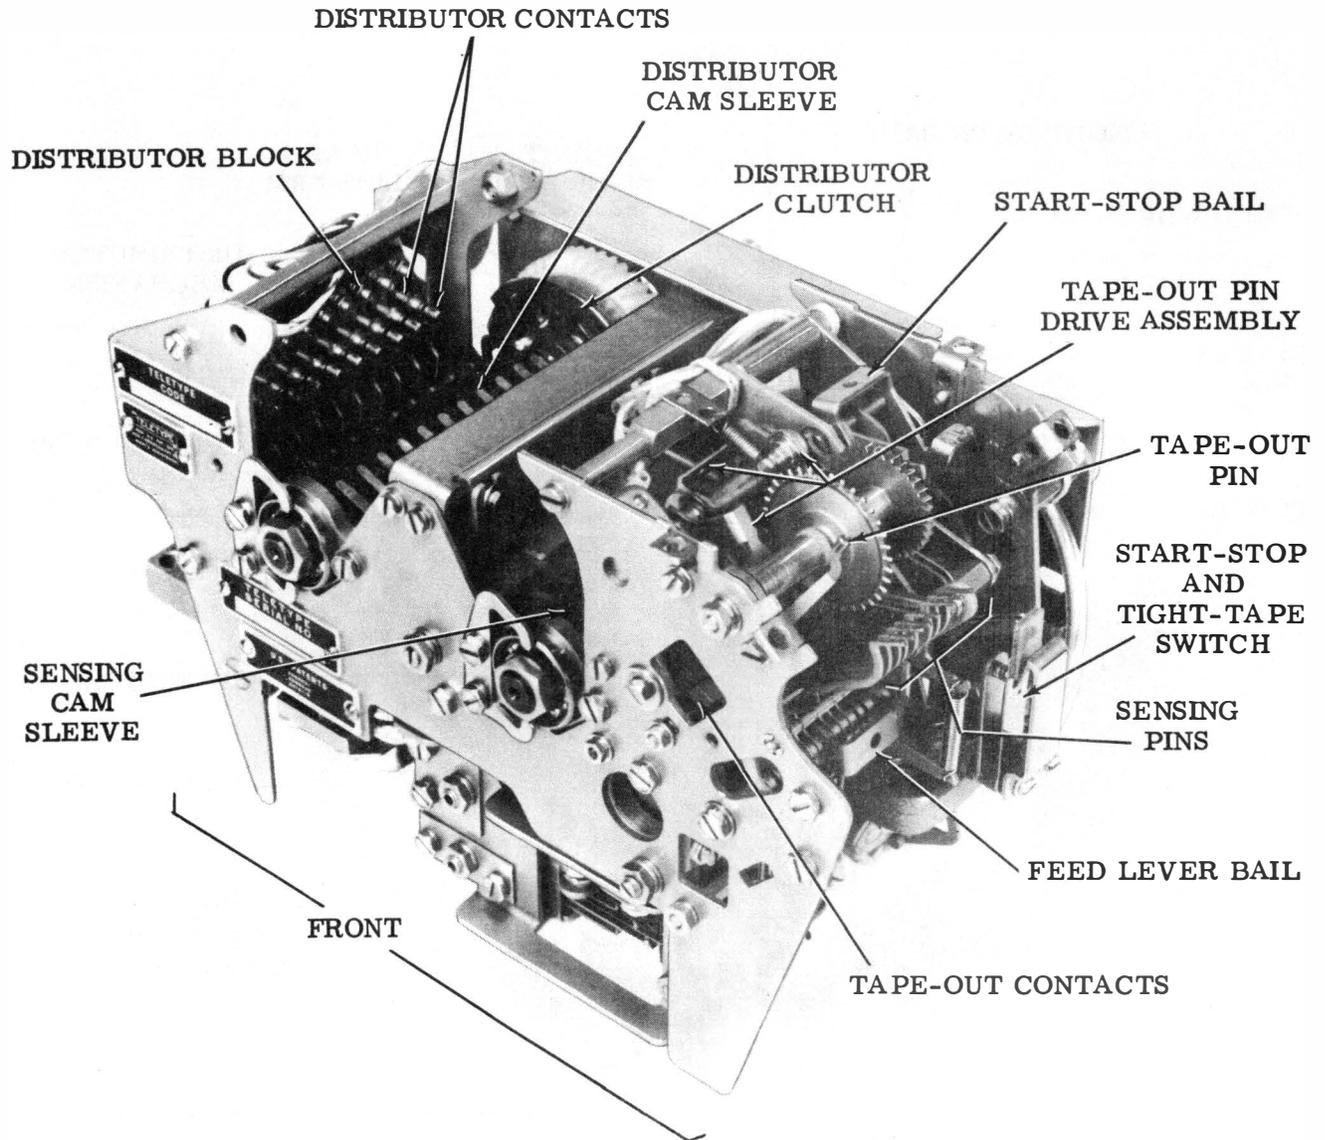

Figure 2 - Typical 35 Transmitter-Distributor Unit, Top, Cover, and Tape Guide Plates Removed
(a) A tape sensing mechanism consisting of sensing pins, transfer, and latch levers, arranged in the following left to right order as viewed from the left side of the unit: auxiliary A, auxiliary B (clutch trip), 1, 2, 3, 4, 5, 6, 7, and 8 (Figure 2).
(b) A distributor block (Figure 2) consisting of a bank of ten contacts: a start-stop contact, an auxiliary contact, and eight code contacts. As viewed from the left side of the unit the contacts are arranged in this left to right order: 1, 2, 3, 4, 5, and 6, start-stop, 7, 8, and auxiliary.
- (1) Two independent clutch-controlled cam sleeves: one for actuation of the tape sensing and tape feeding mechanisms, the other for the distributor (Figures 2 and 3).